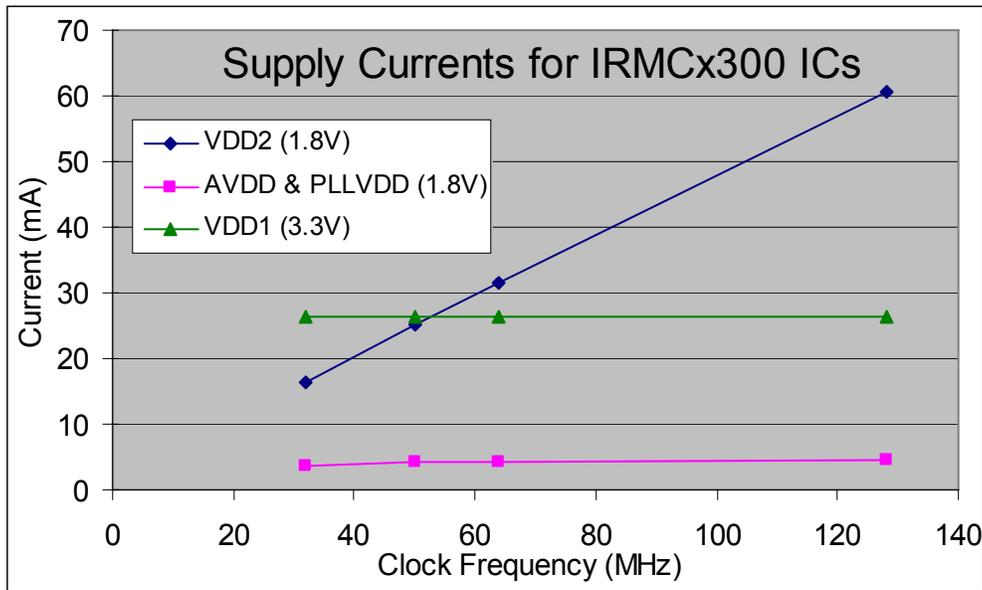

Figure 54—Supply Currents for the IRMCx300
**Power Supplies**—Figure 54 below plots the supply currents required to provide power to the control IC. The 1.8V digital supply current (VDD2) is strongly dependent on the clock frequency used in the IRMCx300. For more information on setting the clock frequency, see the Software Developer’s Guide or the Reference Manual.